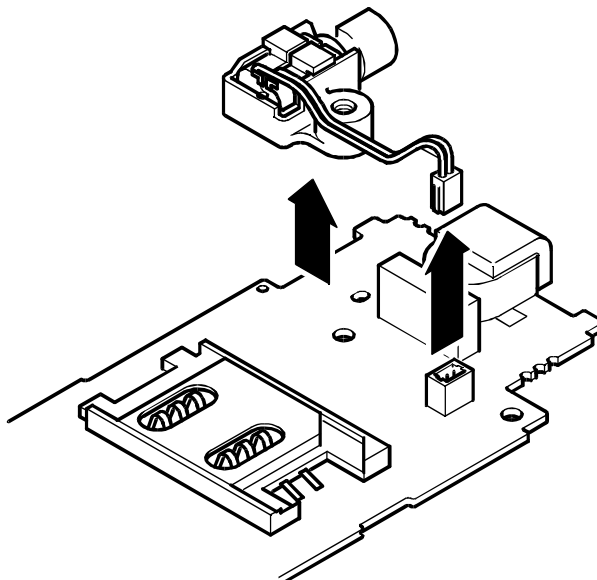

Figure 6: Vibrator assembly removal
6. (Figure 6) Unclip the Vibrator power connect and remove the assembly from the RF board.